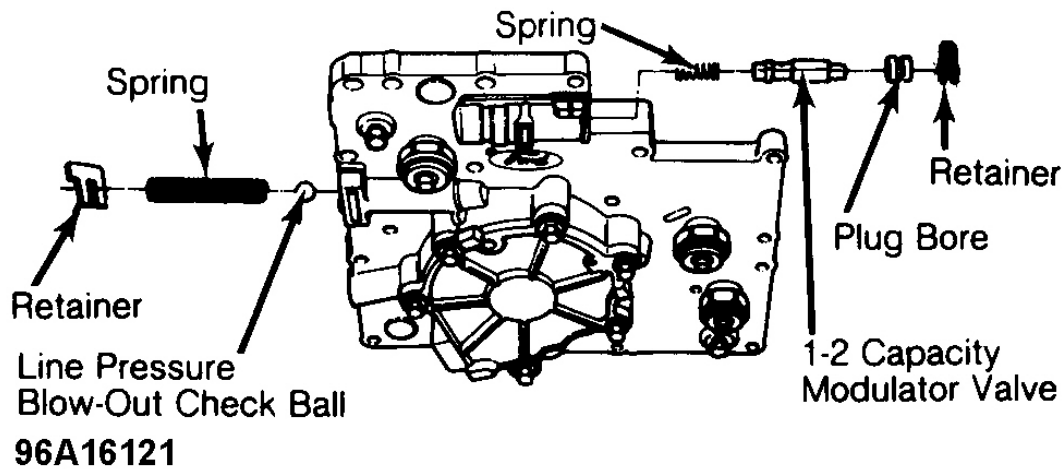

Fig. 15: Exploded View of Oil Pump
2. Remove 2 retaining clips and remove line pressure blowoff spring and ball, bore plug, 1-2 capacity modulator valve and spring. See **Fig. 15**.